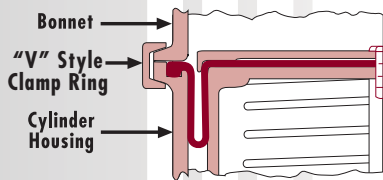

Fig. 25: Ring Clamp
**Ring Clamp (fig. 25)** – In order to provide for fast disassembly, a “V” style clamp ring is frequently used. This type of ring can be opened quickly for disassembly by removing one toggle clamp lever. The retainer plate is provided with a “keyhole slot” and the retaining screw is provided with two wings which bear against the top surface of the retainer plate. This retainer plate is quickly removed by turning it 90° at which point the wings and the bolt drop into the keyhole slots. In general, this design is for low pressures.